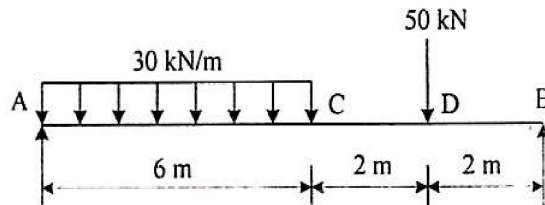

Fig. 4
- (b) A simply supported beam is loaded and supported as shown in Fig. 4. Determine support reaction at A, shear and moment at C by drawing influence line diagram. [6]